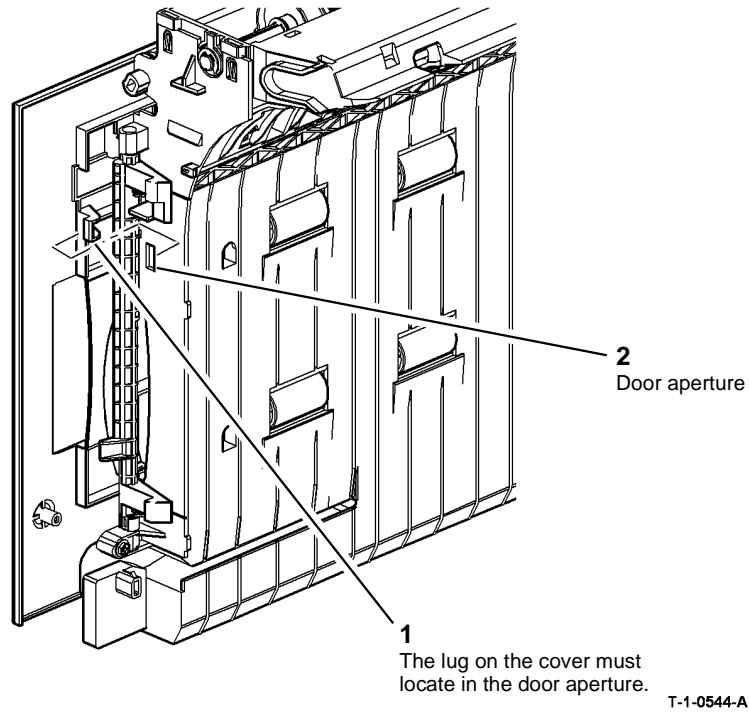

Figure 5 Cover location
3. Ensure that the cover is located correctly on the left hand door assembly, Figure 5.